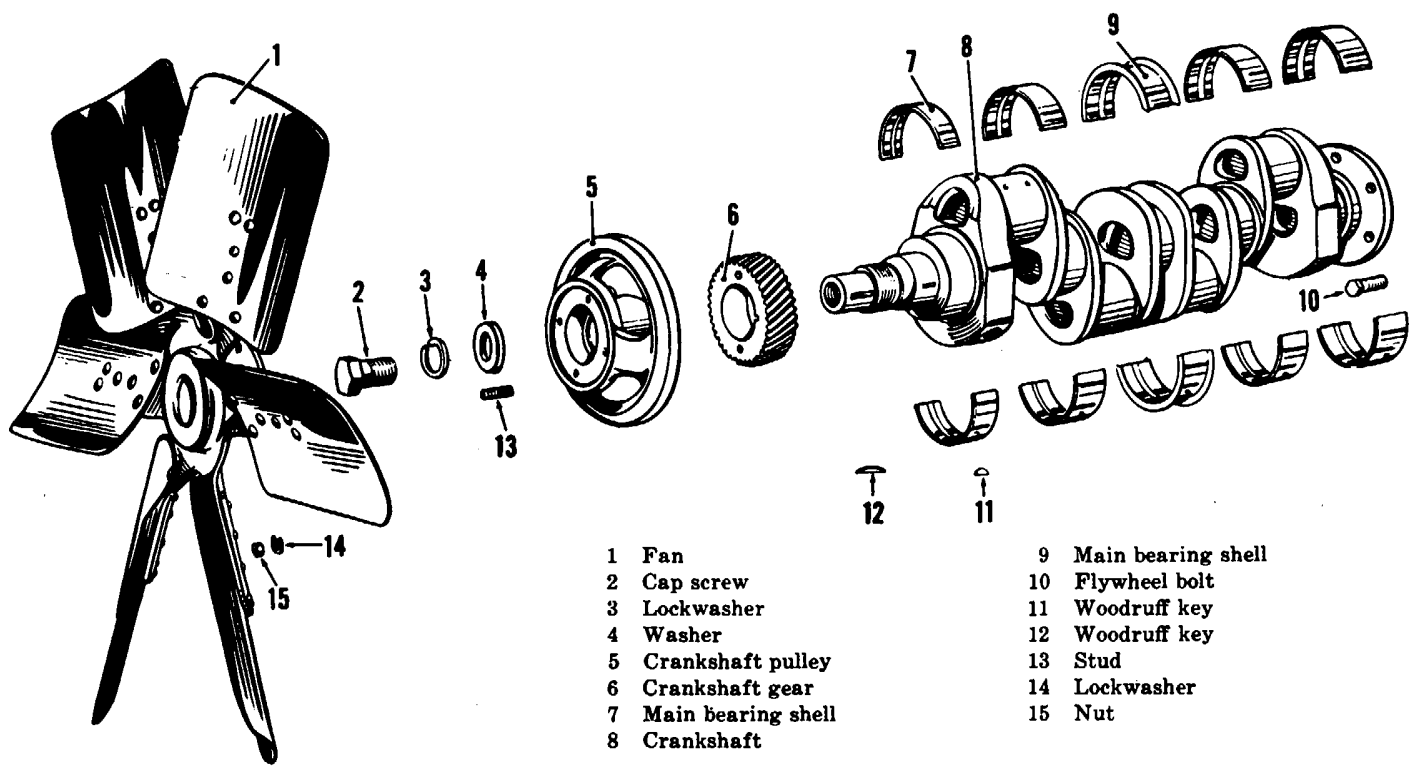
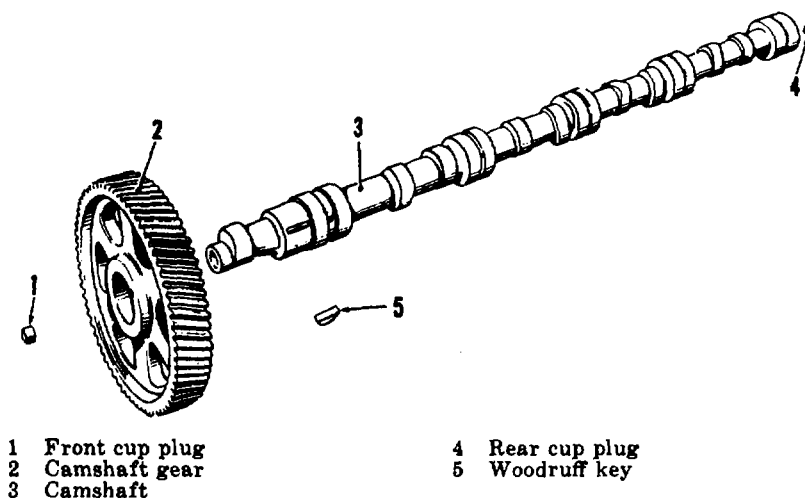
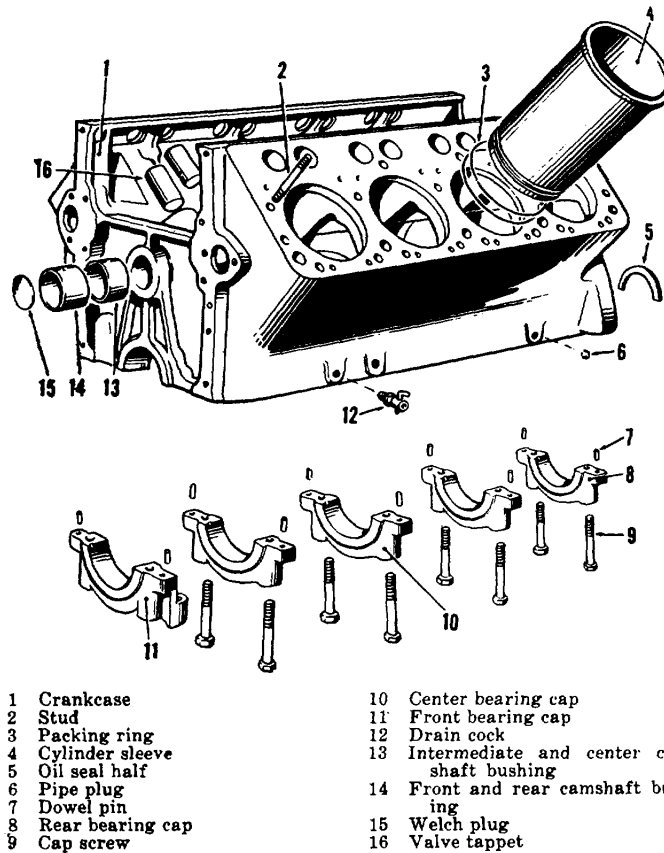

Figure 103. Exploded view of crankshaft, fan, and main bearings.
Figure 105. Exploded view of camshaft and gear.
Figure 106. Exploded view of crankcase and sleeves.
- (6) Unscrew the locknuts (1, fig. 102) from the flywheel bolts (10, fig. 103) through the flywheel (2, fig. 102). Lift off the flywheel and ring gear (3). Remove the six cap screws (5) and lockwashers (6) that fasten the rear engine support to the crankcase and upper oil pan. Pull the taper pins (7) and lift out the rear engine support. The hex head bolts (8), hex nuts (11), and lockwashers (10) need not be removed if the timing indicator (9) is undamaged. The ring gear is integral with flywheel and is not serviced separately.
- (1) Install the timing indicator (9, fig. 102) if it was replaced. Place the rear engine support (4) against the crankcase and drive in the two taper pins (7). Install the cap screws (5) and lockwashers (6) that fasten the rear support. Position the flywheel (2) and ring gear (3) over the flywheel bolts (10, fig. 103) through the crankshaft flange and install the locknuts (1, fig. 102). Install the spacers (15 and 16, fig. 96), cap screws (17), and nuts (14) that fasten the rear engine support to the frame.
- (1) Remove the engine-compressor from the truck (par. 214). Remove the housing (par. 128). Remove the upper and lower oil pans (par. 217a), flywheel (par. 221a), and radiator and fan (par. 88a). Remove the engine cylinder head (par. 122a) compressor cylinder head (par. 126a), and the pistons, connecting rods and rings (par. 223a).
- (2) Remove six cap screws (9, fig. 106) and the three outer bearing caps (10) with the lower main bearing
shells (7 and 9, fig. 103). Mark the bearing caps so they can be installed in their original positions. Push the exposed upper bearing shells (7 and 9) counterclockwise (facing the front of the engine) until they can be removed. Keep each pair of bearing shells together and tag them so they can be installed in their original positions.
- (3) Support the crankshaft (8) to prevent it from dropping. Remove four cap screws (9, fig. 106) and the front and rear bearing caps (8 and 11) together with the front and rear bearing shells (7, fig. 103).
- (4) Remove the crankshaft and place it on a clean surface. Do not use chains to support the crankshaft or the bearing surfaces will be marred. Remove the cap screw (2), lockwasher (3) and washer (4). Remove the crankshaft pulley (5) and gear (6) with a gear and bearing puller (par. 179). Do not lose the woodruff keys (11 and 12).
- (1) Press on the crankshaft gear (6, fig. 103) over the woodruff key (11) using an arbor press (par. 179). Also press the crankshaft pulley (5) over the woodruff key (12).
- (2) Install the upper bearing shells (7 and 9) in the crankcase. The bearing backs must be clean and dry. Coat the bearing surfaces with clean engine oil OE.
- (3) Support the crankshaft (8) in position under the crankcase. Mesh the timing marks on the camshaft gear (2, fig. 105) with those on the crankshaft gear (6, fig. 103). Install the front and rear bearing caps (8 and 11, fig. 106) and their main bearing shells (7, fig. 103) with four cap screws (9, fig. 106). Install the three center bearing caps (10) and main bearing shells (7 and 9, fig. 103) with six cap screws (9, fig. 106). Tighten all the cap screws to 150 foot-pounds of torque.
- (4) Install the flywheel (par. 221c). Turn the crankshaft over by rotating the flywheel. No difficulty should be experienced in turning the crankshaft over.
- (5) Install the pistons, connecting rods and rings (par. 223c). Install the compressor cylinder head (par. 126c), engine cylinder head (par. 122e), oil pans (par. 217c) and radiator and fan (par. 88b). Install the housing (par. 130) and engine-compressor on the truck (par. 215).
a. *Removal.* Remove the fuel pump (par. 75a). Remove the crankcase covers (par. 216a). Remove the gear cover (par. 220a). Remove the engine cylinder head and valves (par. 122a) and lift up and tie the valve tappets (16, fig. 106) so they will not catch the cams on the camshaft (3, fig. 105). Turn the engine so the timing marks on the camshaft gear (2) and crankshaft gear (6, fig. 103) coincide. Note this position. Pull the camshaft and gear from the crankcase. Twist the gear to disengage it while pulling. Do not remove the cup plugs (1 and 4, fig. 105).
b. *Inspection.* Inspect the camshaft gear (2, fig. 105) for chipped or broken teeth. Examine the camshaft (3) for scratches or obvious wear. Slight scratches can be removed with crocus cloth. Clean any residue from the camshaft surface. If the gear is damaged, pull it off over the Woodruff key (5) using a gear and bearing puller (par. 179). Carefully press on the new gear with an arbor press (par. 179). If the camshaft is damaged beyond repair, replace the camshaft and gear as a unit. The camshaft and front cup plug (1) are not serviced separately.
c. *Installation.* Insert the camshaft (3, fig. 105) and camshaft gear (2) in the front of the crankcase. Be careful in meshing the gears. See that the timing marks on the camshaft and
crankshaft gears coincide. Turn the engine over if necessary. Release the valve tappets (16, fig. 106) and install the cylinder head and valves (par. 122e). Install the fuel pump (par. 75b). Install the gear cover (par. 220c). Install the crankcase covers (par. 216c).
a. *Removal* (fig. 106). Remove the engine-compressor from the frame (par. 214). Remove both cylinder heads (pars. 122a and 126a), crankcase covers (par. 216a), rear support (par. 221a), gear cover (par. 220(a), crankshaft and main bearings
b. Inspection. Measure the inside diameter of the cylinder sleeves (4, fig. 106) with an inside micrometer caliper (par. 179). Check the sleeves for out of round by taking several measurements down the base and around the inside diameter. They should measure from 5.500 to 5.501 inches. Replace the sleeves if one measures greater than the maximum out-of-round. Remove a sleeve by driving it up from the bottom with a mallet and a hardwood block, or with a cylinder liner puller (par. 179). Before installing a new sleeve make sure the crankcase bore and sleeve upper seating surface are clean. Install new packing rings (3) in the crankcase grooves. Apply a liberal amount of soap to the rings and grooves. Guide the new sleeve into the bore and carefully drive it into place. Clean the crankcase in solvent and remove all dirt and grease deposits.
Insert the camshaft (3, fig. 105) into the crankcase (1, fig. 106) and measure the camshaft to bushing clearance. On all bushings (13 and 14) this clearance should be from 0.0015 to 0.0035 inches.